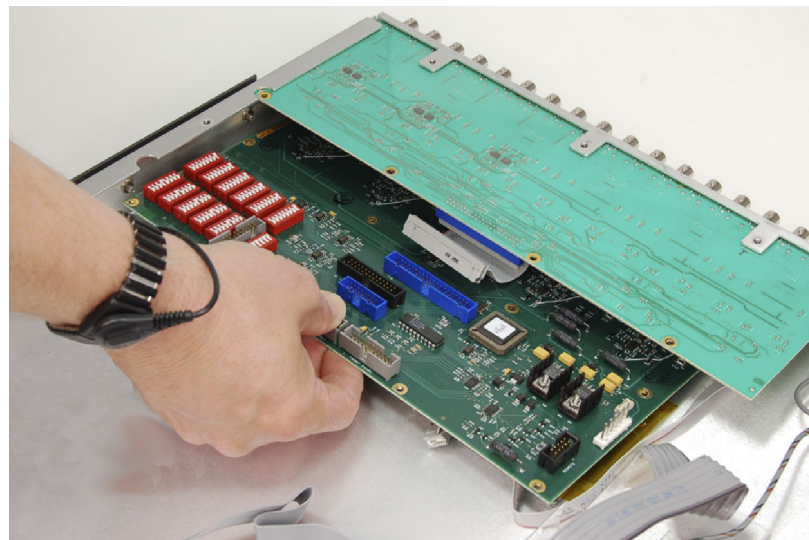

Figure 3: Main board removal
9. Keeping the main board level, slide the board toward the front of the instrument until the BNCs clear both the rear chassis panel and the top connector board. See Figure 3.